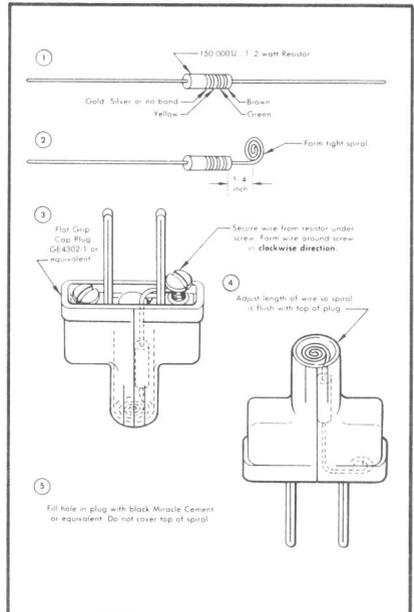

FIGURE 5
3.01 A voltage plug, to be made up locally (Figure 5), is designed to provide a safe and convenient means for checking the operation of the B voltage tester. When plugged into any standard 110 to 120 volt convenience outlet, it provides a source of voltage in series with a current limiting resistor. As shown in Figure 5, the resistor is connected to only one prong of the plug and this prong must be plugged into the **hot** side of the outlet. Generally, the **hot** side is the smaller of the two parallel slots in the outlet.